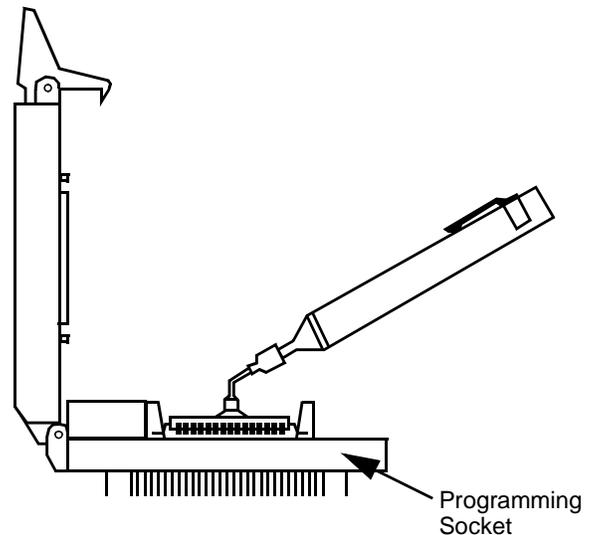

**Figure 2 • Vacuum Wand**
1. Position the vacuum needle at the proper angle so that your index finger can rest on the vacuum switch (see Figure 2).